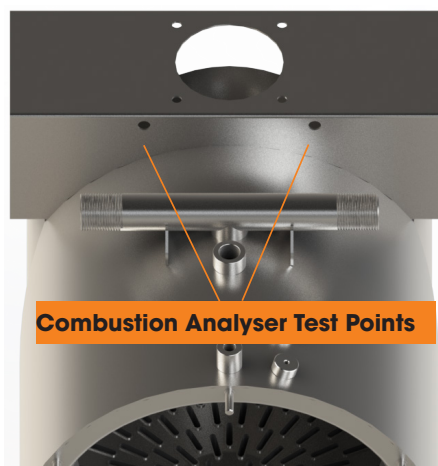

Fig. 21
- Once the boiler is firing, locate the combustion analyser test points and carry out a smoke and combustion test with the aid of a smoke pump and combustion flue gas analyser to ensure the combustion levels are suitable. **Fig. 21**